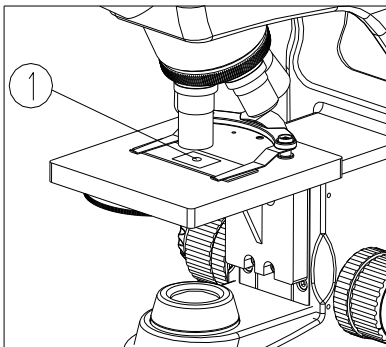

Fig. 12
2. Place a drop of oil① on the specimen observed (see Fig. 12)